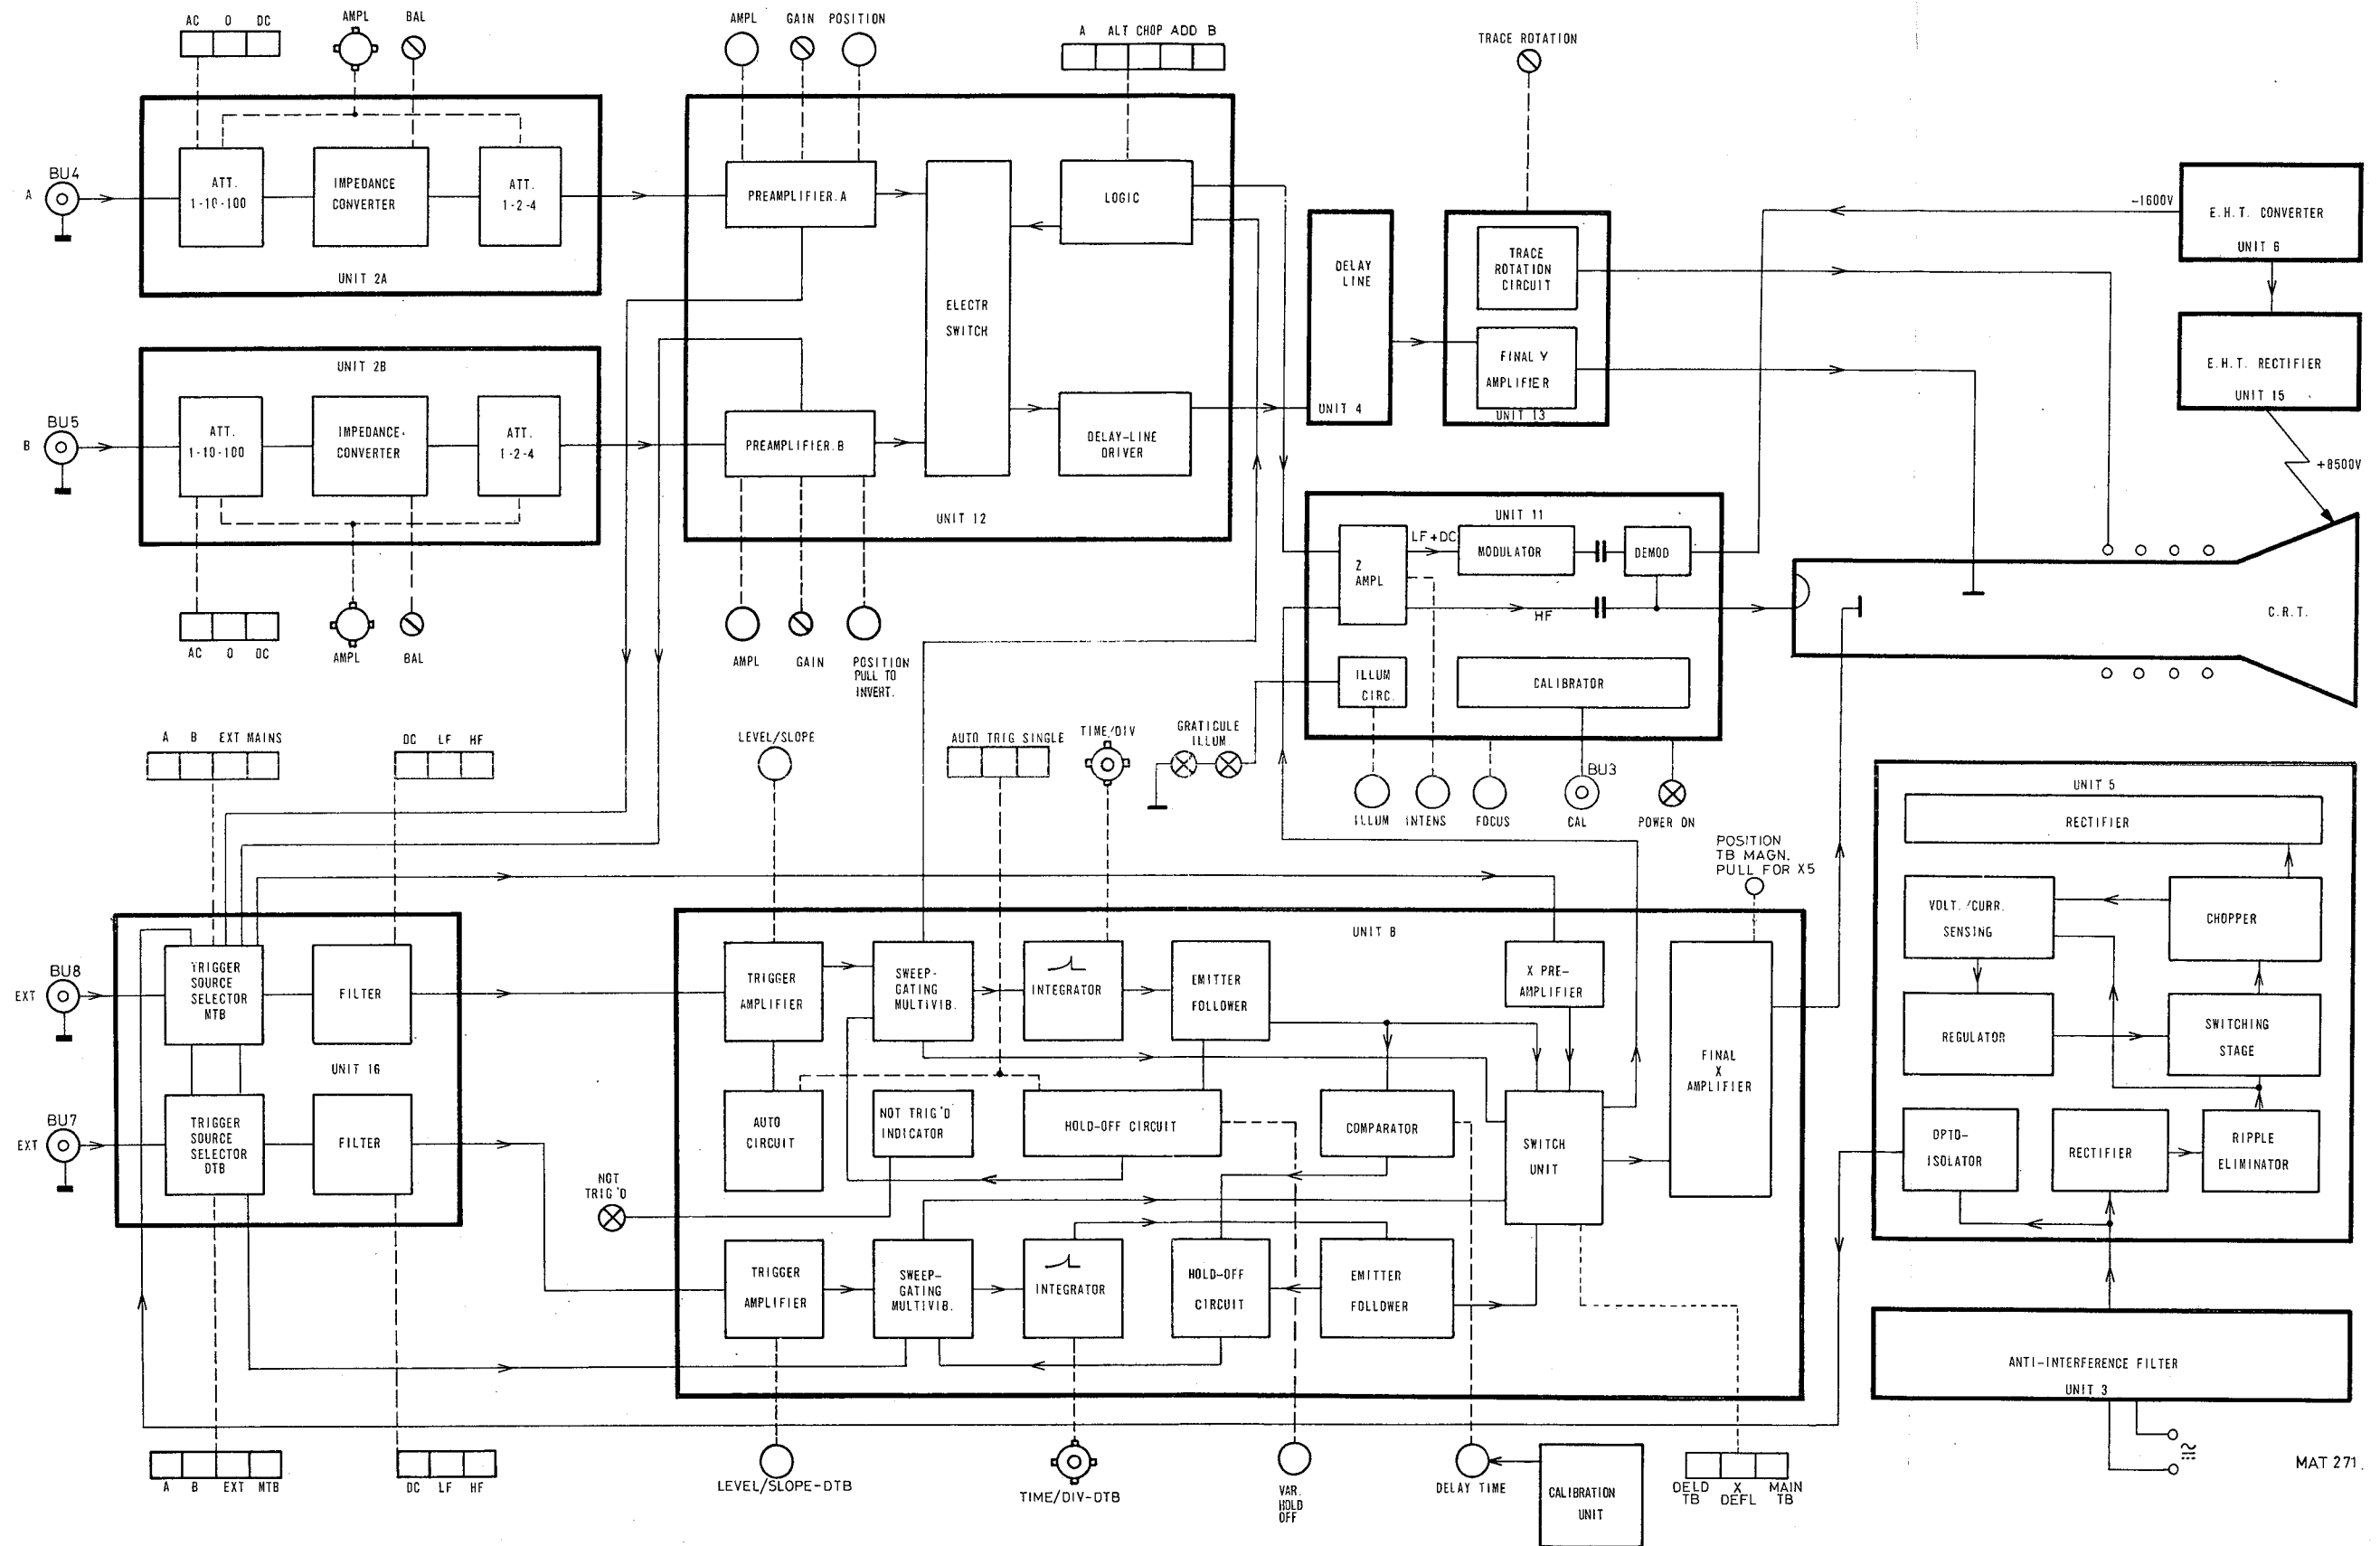

Fig. 3.1 Block diagram
3.1. DESCRIPTION OF THE BLOCK DIAGRAM (Fig. 3.1)
3.1.2. Dual-channel vertical deflection system (unit 2A, 2B, 12,4 and 13 of fig. 3.1.)
3.1.3.1. Main time-base (unit 16 and 8 of fig. 3.1.)
3.1.3.2. Delayed time-base (unit 8 of fig. 3.1.)
3.1.4. Switching unit and X-amplifier (unit 8 of fig. 3.1.)
3.1.5. Z-Amplifier and c.r.t. circuit (unit 11,6 and 15 of fig. 3.1.)
3.1.6. Stabilized power supply (unit 5 of fig. 3.1.)